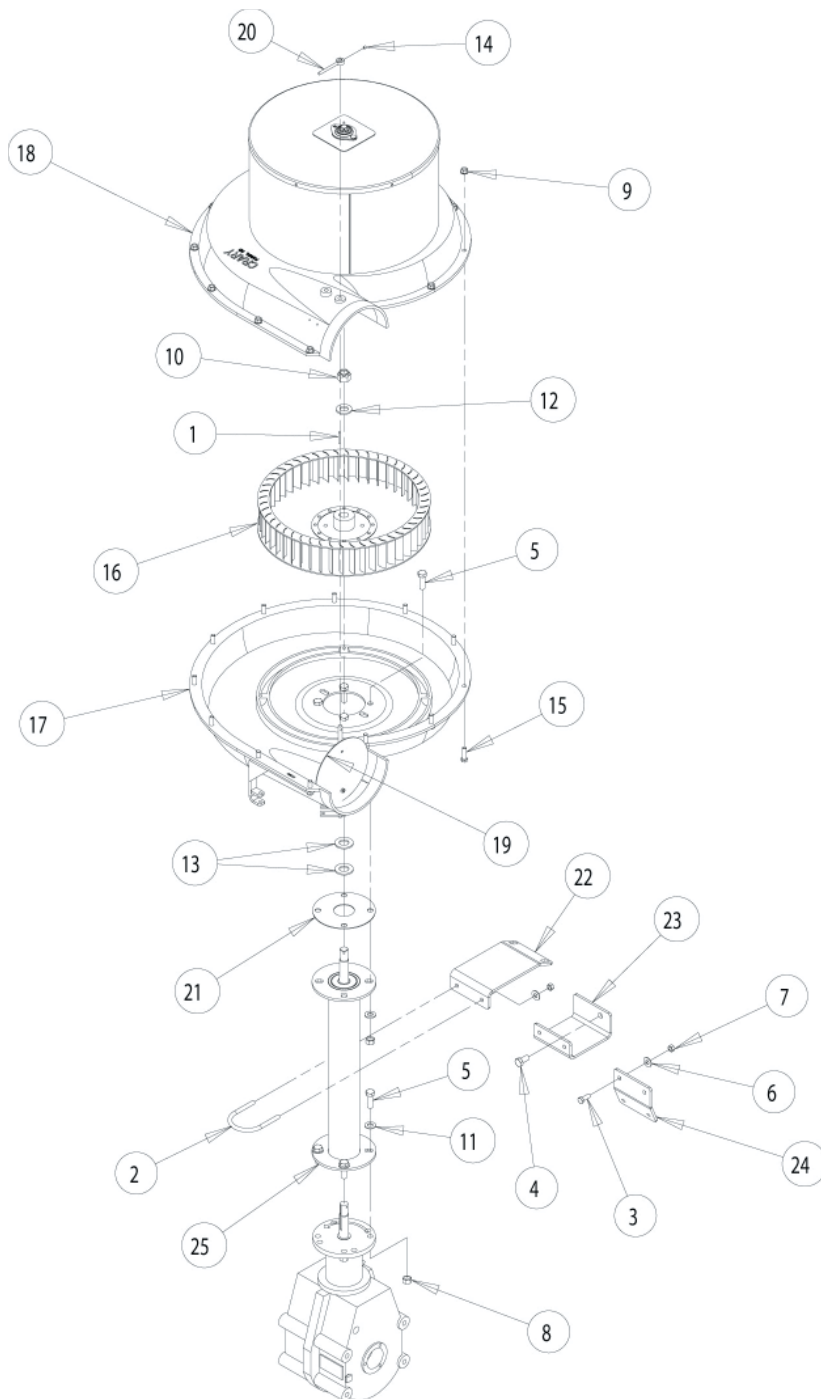

Figure 43, Gearbox/fan extension kit
1. Separate gearbox and fan. Refer to Figure 43 for identification of parts.